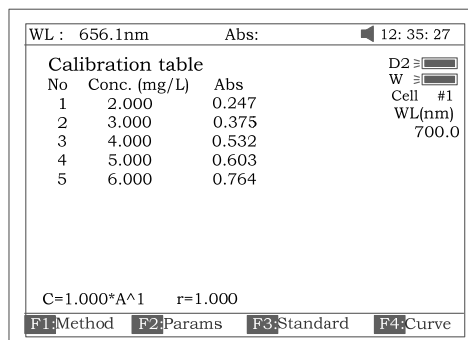

Fig 33
- Pull the first sample cuvette of known concentration into the light path, Press the key [START] to get values of standard curve one by one (Fig 33).
- Standard curve built up and saved in the instrument. In Fig 33 press [Load] and then press [] or [] to select the file with type *.fit. At last press [ENTER] to confirm.